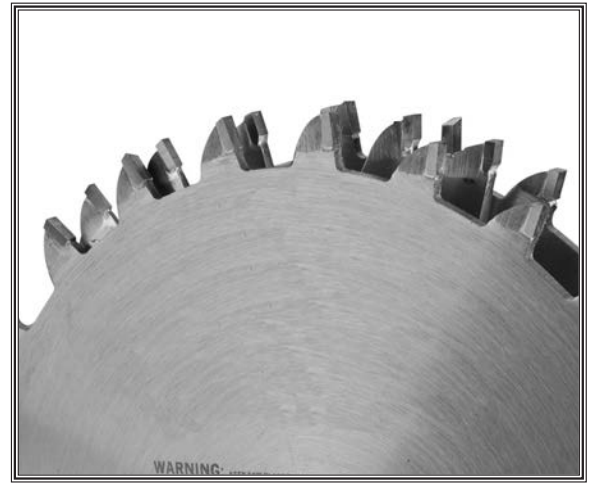

Figure 45. Stacked dado blade.
Dado Blades (see Figure 45):
- **Stacked Dado Blade:** These dedicated dado cutting blade sets consist of up to 8 individual blades. Multiple cutters are "stacked" between two outside blades. The width of the dado is determined by the combination of cutters that are "stacked" together. The dado is cut in a single pass leaving a smooth and square channel in the face of the workpiece. Stacked dado blades are the most expensive option, but are worth considering if your projects require a lot of visible dado cuts. A stacked dado blade is shown in **Figure 45**.